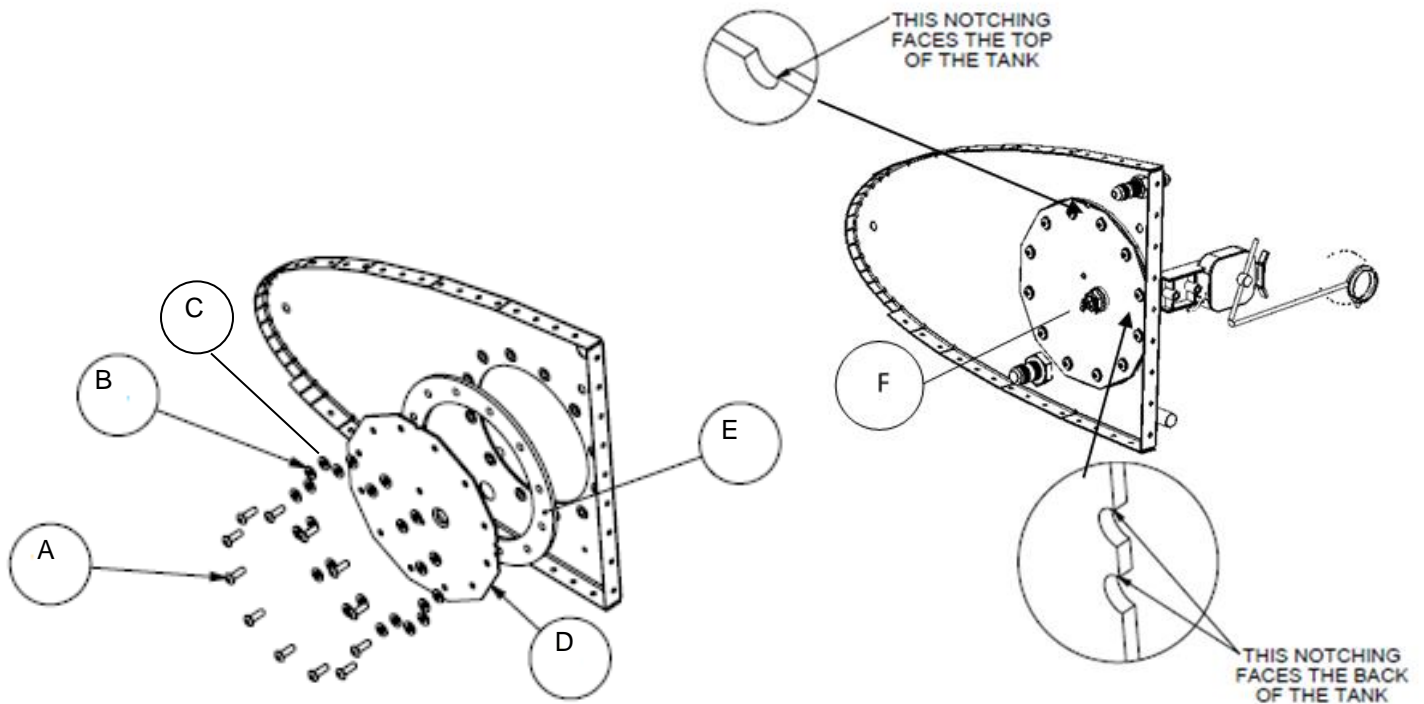

Figure 59: Fuel sender installation into fuel tank.
- Observe correct plate orientation and placement of washers (refer to Figure 59). The plate is fitted with the edge with the single notch facing the top of the wing and the edge with two notches facing the rear of the wing.